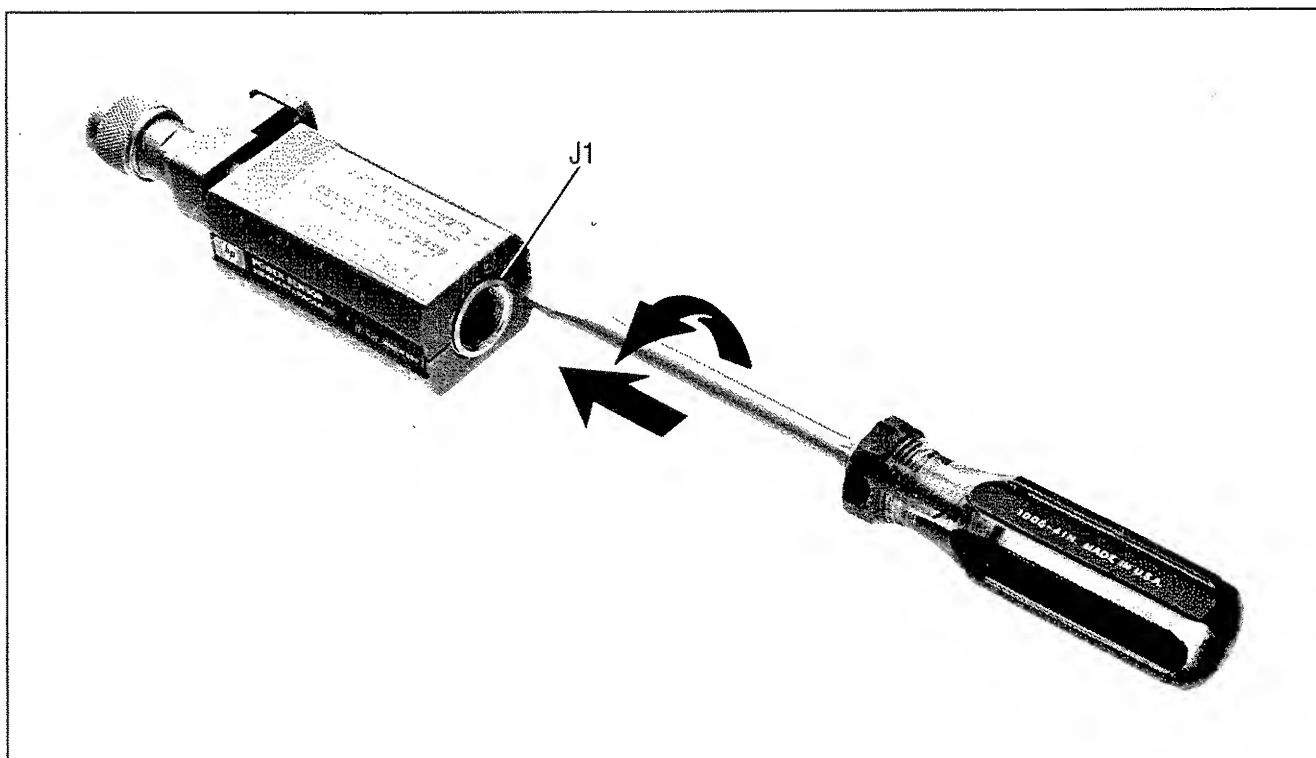

Figure 7. Removing Power Sensor Shell
- c. Position Power Sensor as shown in Figure 7, top view. (Small hole [5] should be on left side of RF input connector). Remove allen cap screws (1), (2), (10), and (13). Loosen screws (11), and (12). Remove upper chassis from Power Sensor.
- a. Set printed circuit board and connector into place as shown in Figure 7, opened view.
- b. Insert cap screws (8), (9), (11), (12), (14), and (15) but do not tighten.
- c. Center A2 circuit board so there is equal air gap between each side and chassis. Tighten cap screws (8), (9), (14), and (15).